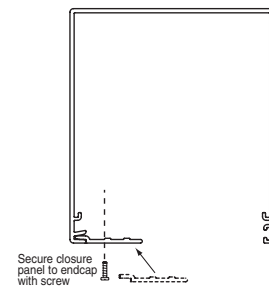

Figure 9
- ① Snap endcap covers onto endcaps.
- ② Place endcaps into back/top portion of wall/ceiling headbox or into pocket extrusion of pocket headbox. Using pre-drilled holes in endcaps, mark the headbox for drilling.
- ③ Drill holes in back or top, depending on whether you will be mounting the headbox to the wall, ceiling or pocket.
- ④ Attach endcaps and wall/ceiling headbox back/top or pocket headbox extrusion to wall, ceiling or pocket using mounting hardware appropriate for site conditions. **The installer is responsible for selecting mounting hardware appropriate for site conditions.**
- ⑤ Install shade (see "Bead Chain Clutch—Small Endcaps" section above).
- ⑥ Attach headbox fascia or closure (see Fig. 9). **Note on fascia style headbox: Surface Headbox fascia is not fully seated until it clicks into place on both ends. Once in place, check for secure fit. If not secure, secure with appropriate fastener (not included).**